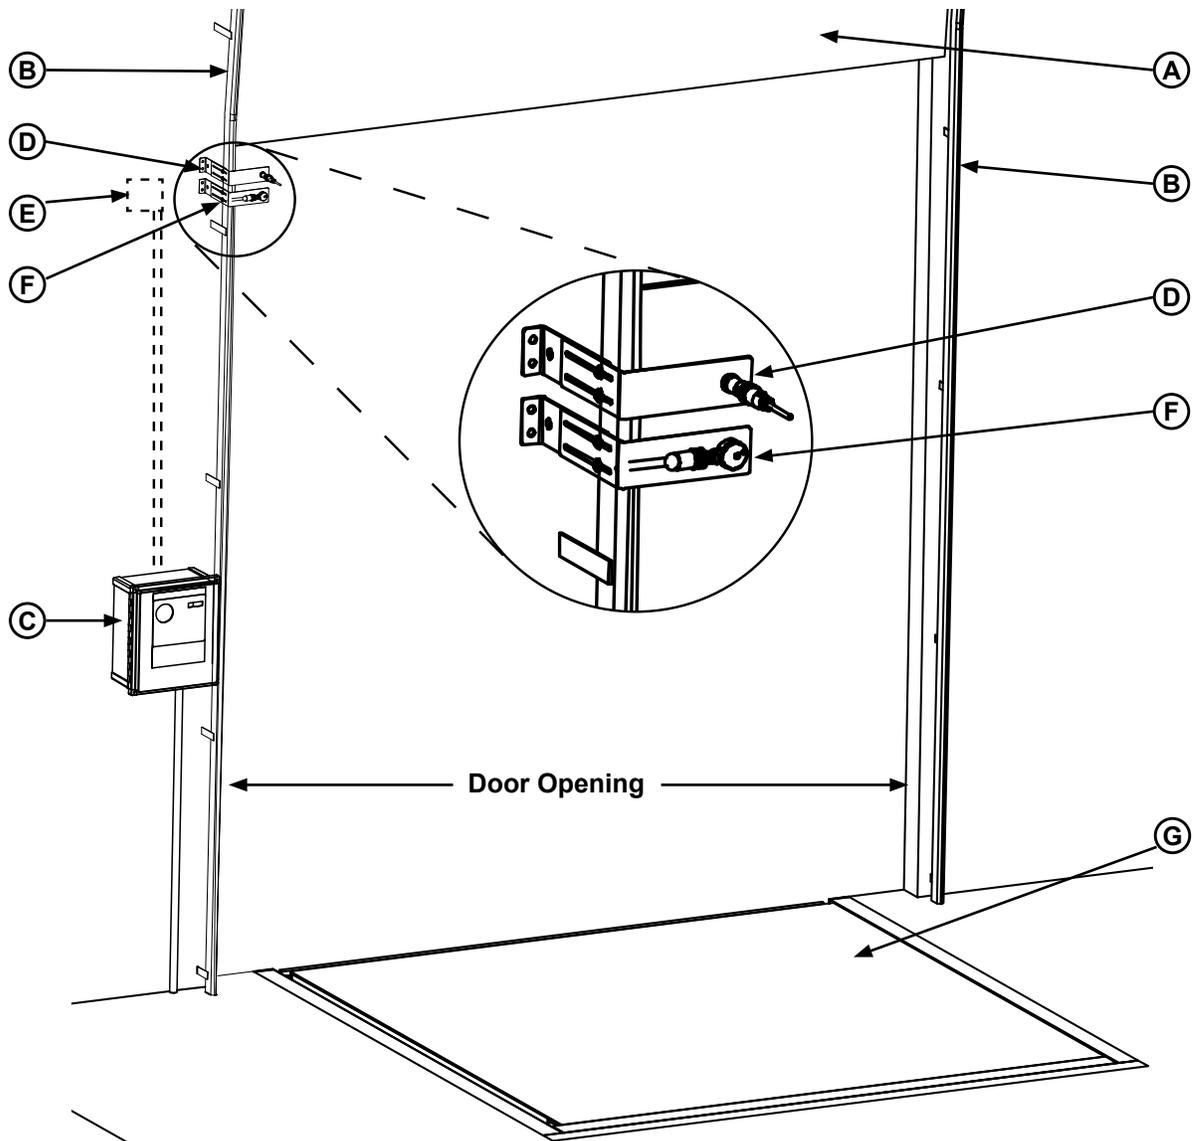

Figure 40
1. Determine a suitable mounting location for sensor and bracket (**F**), according to **Figure 40**.
4. Position the bracket so that it is plumb and level and approximately 1" below the door open sensor (if installed.) See **Figure 40**.